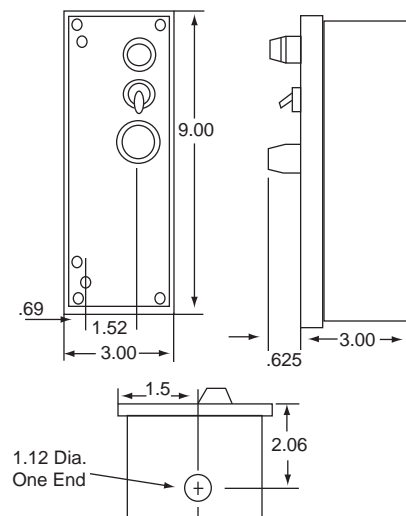

Figure 2. Series RG Dimensions
9. Mount the enclosure with its 1-1/8 inch diameter conduit hole at the bottom to ensure adequate clearance between the external wiring and controller components. See Figure 2 for dimensions.